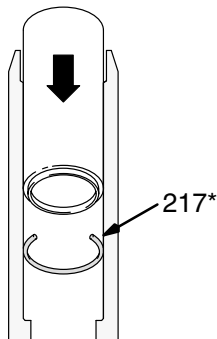

Fig. 30 02573
8. Place a o-ring (217*) in the cylinder. Slide the sleeve in to the cylinder to seat the o-ring. See Fig. 30. Remove the sleeve.